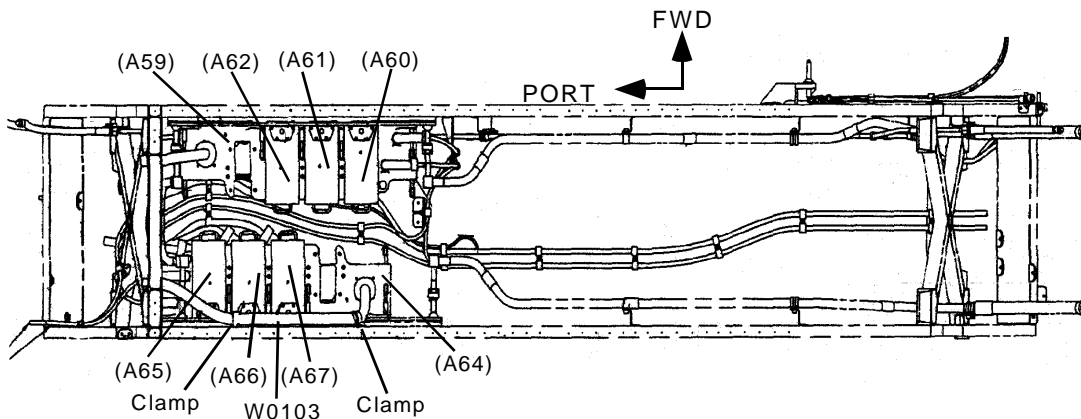

Figure 1.- Nadir View of Node 1 Forward Nadir Alcove with Closeout and Shear Panel Removed.
5. If failed RPCM located on RPDA N1RS1, remove cable wire harness W0103 from clamps (two) (3/8" Socket, 1/4" Drive, 4" Ext, 1/4" Drive, 4" Ext, 1/4" Drive, Ratchet 1/4" Drive). See Figure 1.
See Figure 1 and Table 2.
19. If replacement RPCM located on RPDA N1RS1, install cable wire harness W0103 from clamps (two) (3/8" Socket, 1/4" Drive, 4" Ext, 1/4" Drive, 4" Ext, 1/4" Drive, Ratchet 1/4" Drive). See Figure 1.